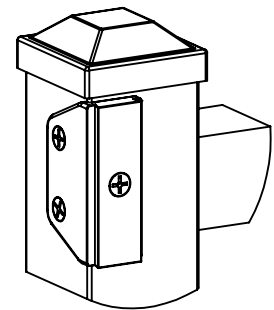

FIGURE 2
STEP 2: Install Upper Bracket using (3) flat head screws, as near to the top of the fence post as possible (Figure 2).